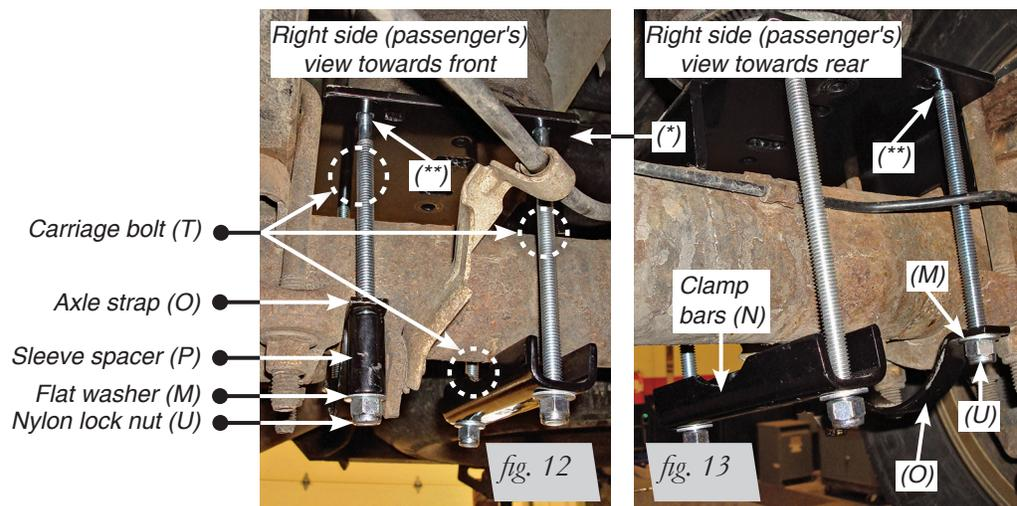

fig. 12
4. Right side (passenger's) installation: insert two long carriage bolts (T) into the square holes on the furthest inside set of holes (Fig. 12). Set the axle strap (O) under the axle in between the emergency brake cable bracket and leaf spring retainer.
5. Right side (passenger's): set the other lower bracket onto the axle making sure the bracket is pushed against the leaf spring and is in between the stock U-bolts. Attach the lower bracket as noted in the Figure 12 and 13 instructions noted previously. Torque hardware evenly to 10 lb.-ft. (14Nm) (Figs. 22 & 23).